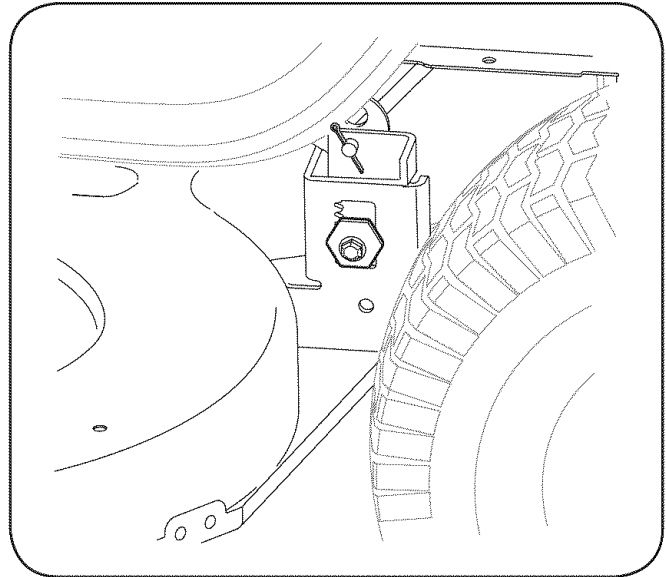

**Figure 7-1**
3. Remove the belt-keeper rod, from around the tractor's engine pulley, by removing the self-tapping screw (A) that secures it. See Fig. 7-1.
4. Remove the belt (C) from around the tractor's engine pulley and idler pulley(s). See Fig. 7-1.